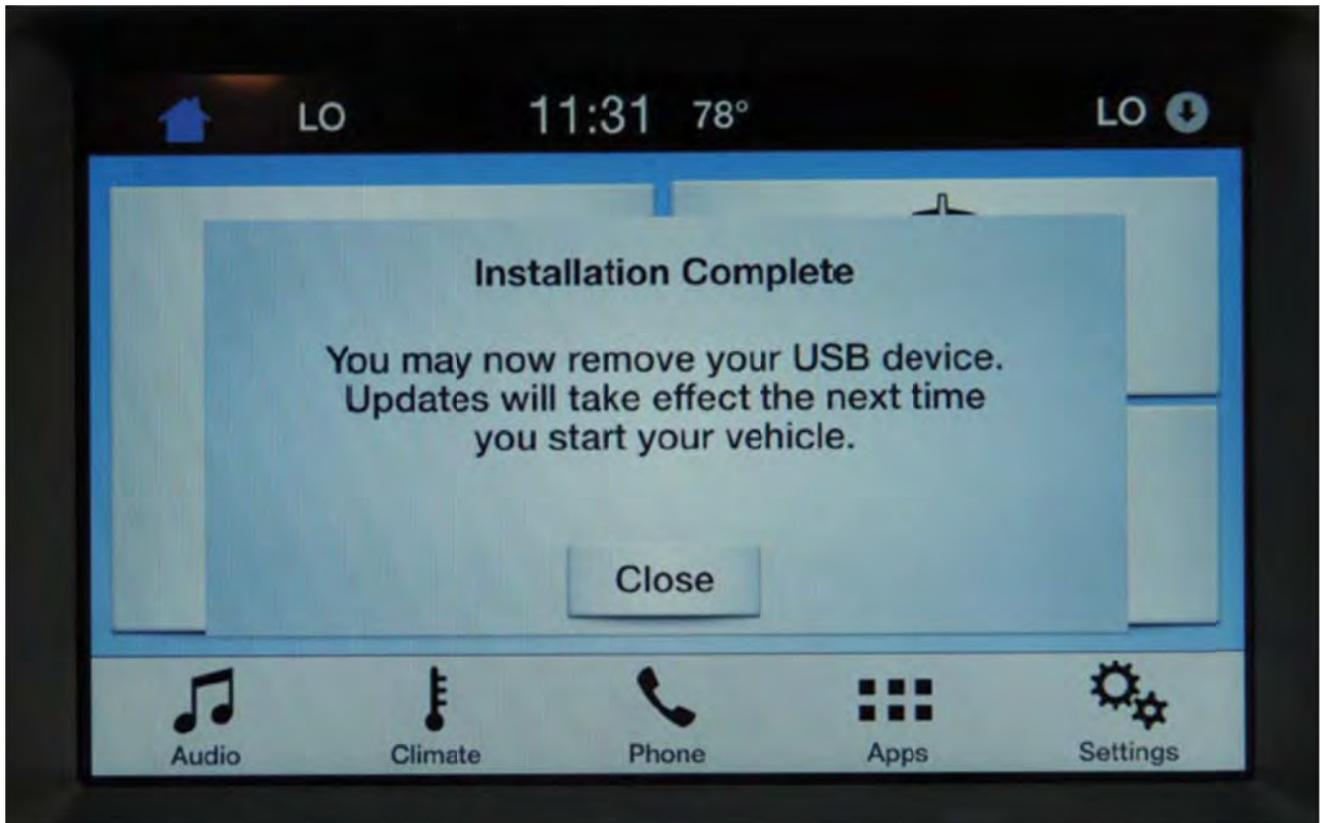

**Figure 1**
3. Install the USB drive containing the new touch screen software update. The installation procedure will start automatically and "Updating System Software..." will appear on the screen. See Figure 1.